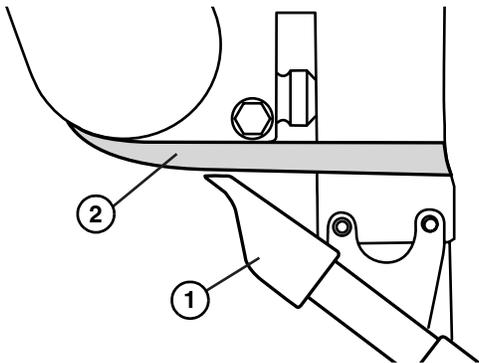

Figure 35
Apply minimal pressure between the scraper (Figure 35, item 1) and the belt (Figure 35, item 2). Positioning the scraper so that it is digging into the belt will increase resistance, cause unnecessary strain on the motor and lead to premature belt failure.